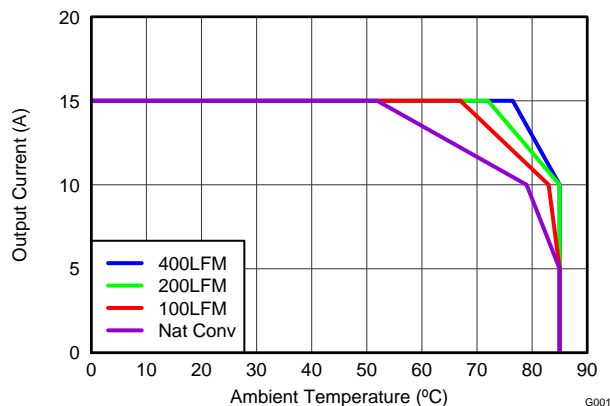
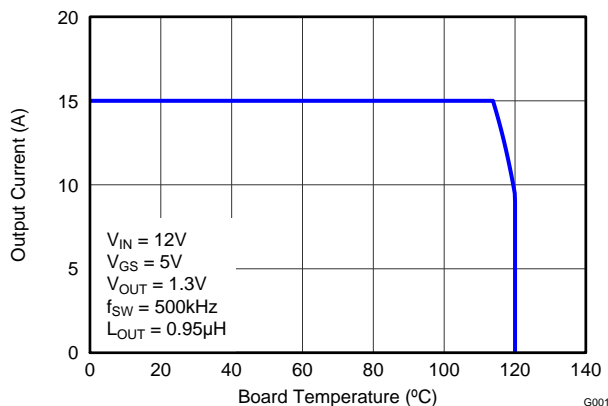

Figure 3. Safe Operating Area – PCB Horizontal Mount (1)
Figure 4. Typical Safe Operating Area(1)
The SOA curves in the CSD87381P data sheet provides guidance on the temperature boundaries within an operating system by incorporating the thermal resistance and system power loss. Figure 3 to Figure 4 outline the temperature and airflow conditions required for a given load current. The area under the curve dictates the safe operating area. All the curves are based on measurements made on a PCB design with dimensions of 4" (W) x 3.5" (L) x 0.062" (T) and 6 copper layers of 1 oz. copper thickness.